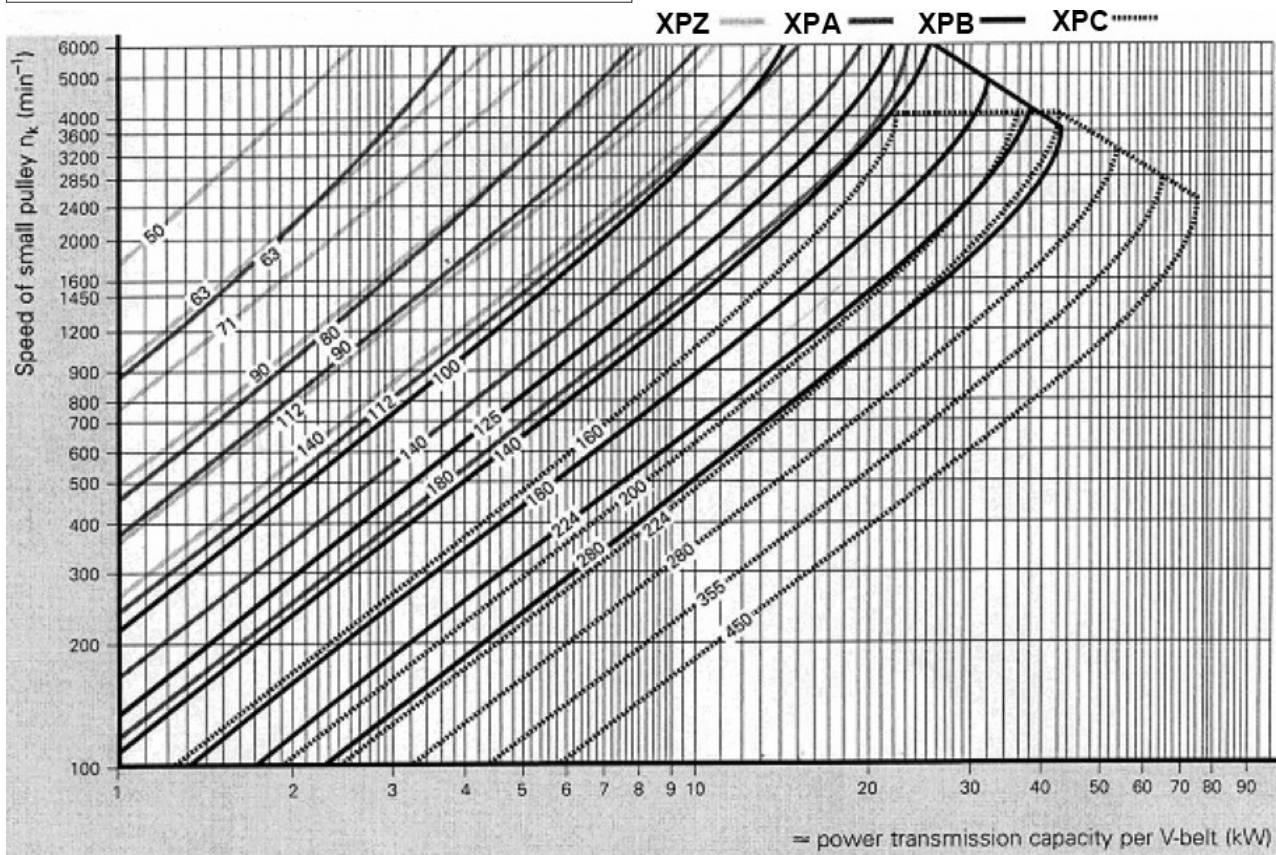
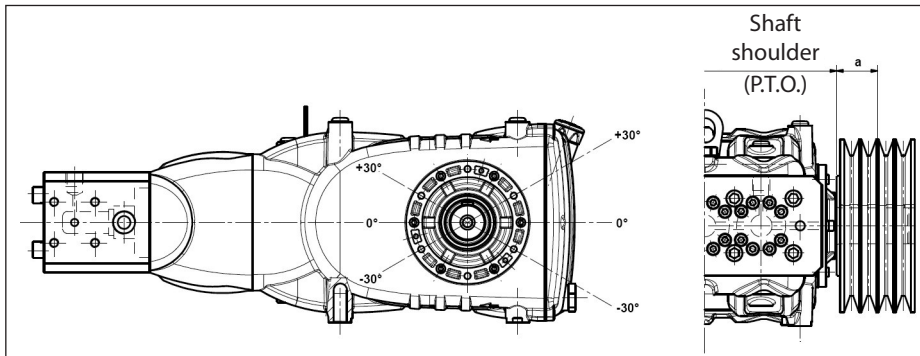

Fig. 8
Fig. 11
For this pump model, we recommend use of 4 XPB belts (16.5x13 serrated). Use an XPC profile only for long durations. Both the characteristics and transmissible power of each belt can be verified in the diagram in Fig. 8, in relation to the number of rpm normally declared by the manufacturer. Minimum duct pulley diameter (on pump shaft): ≥ 250 mm. The radial load on the shaft must not exceed 7500 N (value necessary for Layout definition). The transmission is considered adequate if the load is applied to a maximum distance $a=40$ mm from the shaft shoulder (P.T.O) as shown in Fig. 11.
- b) Use high performance belts – for example **XPB** instead of **SPB** – as a lower quantity of belts for the same transmitted power may be necessary and a consequent shorter resulting distance between the shaft shoulder (P.T.O) “a” of Fig. 11.
- e) Follow the direction of the belt pull as shown in Fig. 11 for other needs, contact our **Technical** or **Customer Service Departments**.